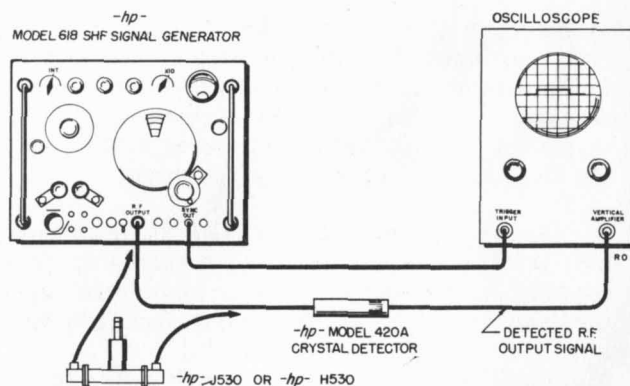

Figure 4-10. Test Setup for Observing Pulse Output
6) With a trigger input oscilloscope and an SHF detector connect instrument as shown in Figure 4-10.
9) At this point it is advisable to check the dial calibration at the high end stop. This check avoids possible retracking adjustments when the dial calibration is adjusted later. To conduct the check, tune frequency control to high end stop and place wavemeter in circuit as shown in Figure 4-10. Wavemeter should indicate 7650 MC. When the wavemeter is tuned to the actual frequency of the generator a slight decrease in the peak level of the pulse appears on the scale. If this frequency is more than 25 mc away from 7650 mc perform step 4 in paragraph 4-13.
10) Remove wavemeter and reconnect output cable as shown in Figure 4-10. Tune the frequency control toward 5000 MC adjusting R170 for best pulse shape between 7600 and 5000 mc.